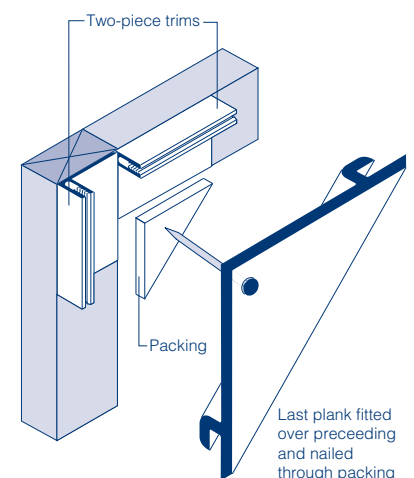

Fig.36 Fitting the finishing plank
- The finishing piece, which will occupy the diagonally opposite corner, should be cut to size and fitted onto the tongue of the penultimate plank, then nailed using a packing piece (Figure 36).